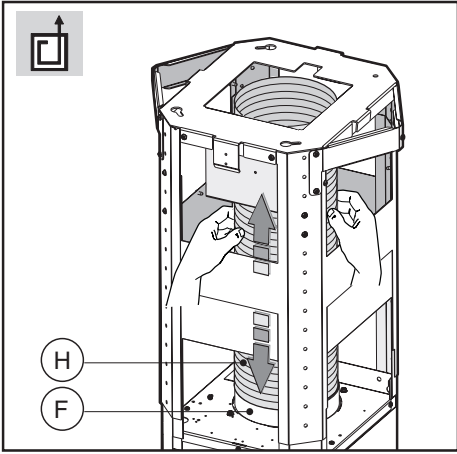

Fig.8
- **Extractor hood:** connect the flexible hose **H** (not supplied) to the air exhaust hole made previously and fix the hose to the connector flange **F** (Fig. 8).